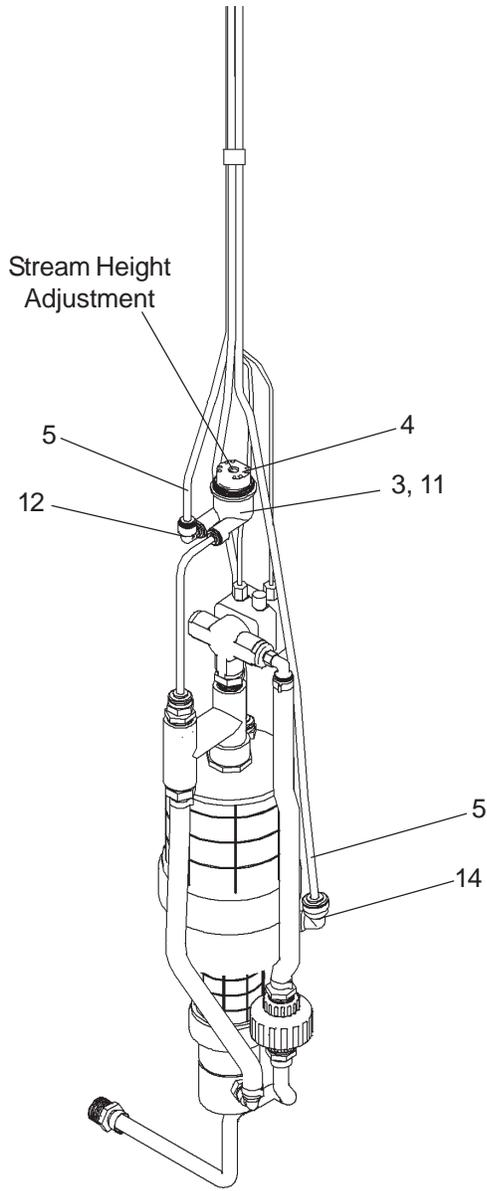

FIG. 4
- Remove the cleanout plug from the PVC column. Remove the valve assembly from the PVC column by carefully pulling up on the strap and connecting tubing at the same time. Pressure test the valve assembly for leaks. Check stream height from the bubbler. Stream height is factory set at 35 PSI. If supply pressure varies greatly from this, adjust the screw on the regulator (Item 11, Fig. 4, Page 10). Clockwise adjustment will raise stream and counter-clockwise adjustment will lower stream. For best adjustment stream height should be approx. 1-1/2" (38mm) above the bubbler guard. Replace the valve into the PVC column. Make sure the supply hose coils into the bottom of the PVC column without any kinks and double check that the valve is positioned fully at the bottom of the PVC column. Cap the PVC column.